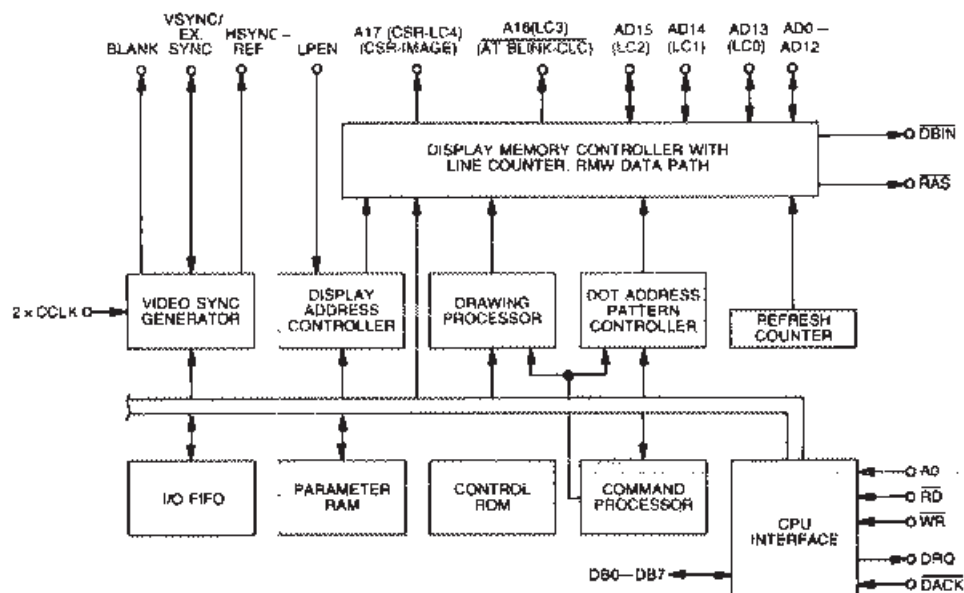

FIGURE 2-76. 7220 GDC BLOCK DIAGRAM
2.4.3 7220 Graphic Display Controller (Figures 2-76 through 2-79)